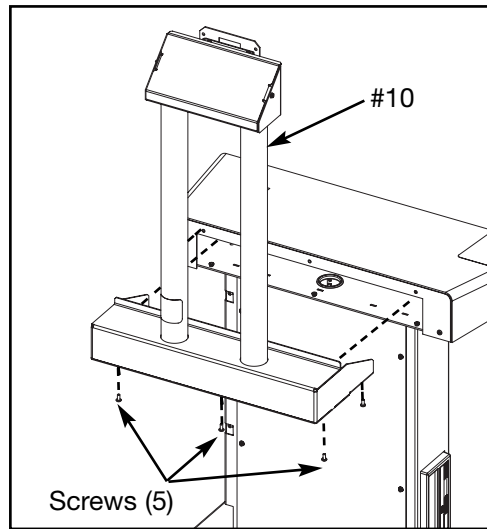

Figure 2
- C. Place the monitor support bracket (#10) inside the cabinet and align holes. See Figure 2.